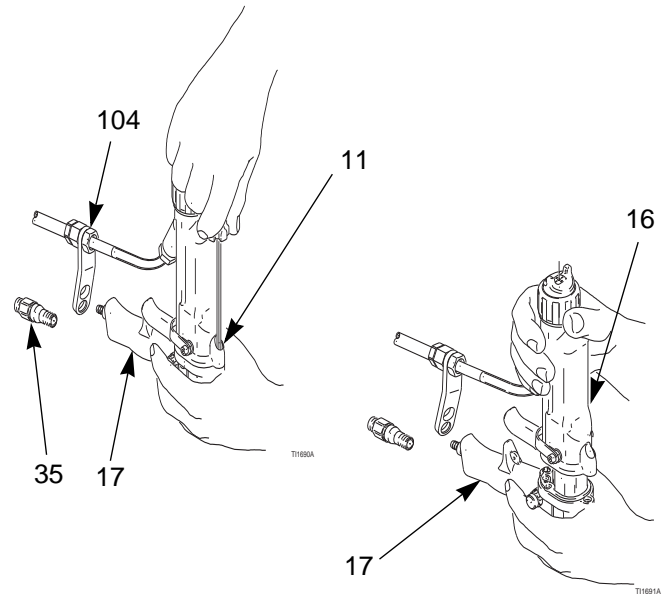

Fig. 29. Barrel Removal
4. Hold the gun handle (17) with one hand and pull the barrel (16) straight off the handle. See FIG. 29..